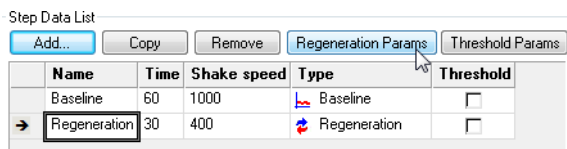

Figure 8-36: Regeneration Params Button
4. Click **Regeneration Params** (Figure 8-36).